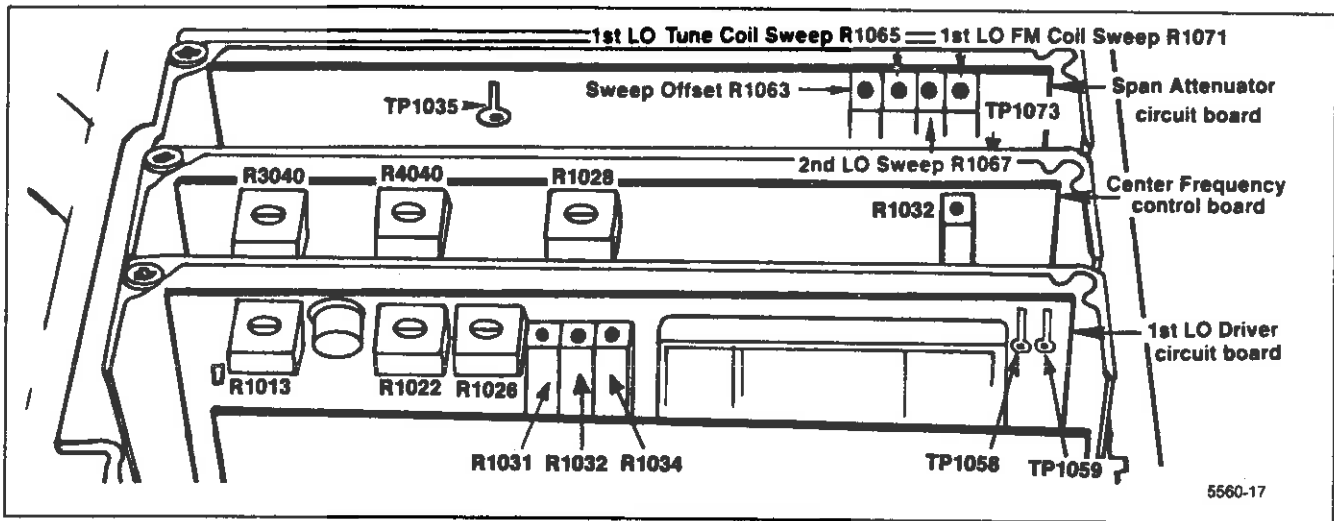

Figure 5-10. Frequency control system test point and adjustment locations.
b. Connect a shorting strap from TP1035, on the Span Attenuator board, to chassis ground (Figure 5-10). Monitor TP1073 on the Span Attenuator board with the voltmeter.
c. Adjust Sweep Offset R1063 (Figure 5-10) for 0.00 V.
d. Remove the shorting strap from TP1035. Press <SHIFT> 0 and select item 1 (FREQUENCY LOOPS CAL), then item 0 (OVERALL SYSTEM) from the menus. Perform the calibration steps as directed ("CONNECT A DVM TO TP1058 ON THE 1ST LO DRIVER BOARD AND GROUND"), etc.
(1) If a "CALIBRATION STEP CANNOT BE COMPLETED" message is displayed, bypass the step, perform the other adjustments then return to the adjustment and try to bring the adjustment in range. If the problem persists, refer to Troubleshooting the Frequency Control System, in the Maintenance section.
(1) Apply the CAL OUT signal to the RF INPUT, set the FREQUENCY to 600 MHz, FREQ SPAN/DIV to 100 MHz, and set the REF LEVEL to display the markers.
(2) Adjust Tune Coil Swp R1065, on the Span Attenuator board (Figure 5-10) for one marker per division over the center eight divisions of the graticule. Reset the CENTER FREQUENCY as necessary to align the markers.
(3) Remove the Calibrator signal and apply 0.2  $\mu$ s time marks from the Time Mark Generator to the RF INPUT.
(4) Set the FREQ SPAN/DIV to 5 MHz, REF LEVEL to +10 dBm, and FREQUENCY to about 10 MHz.
(5) Adjust the 1st LO FM Coil Swp R1071 (Figure 5-10) for 1 marker/division over the center eight divisions of the display.
(6) Set the FREQ SPAN/DIV to 20 KHz and apply 50  $\mu$ s markers from the Time Mark Generator.
(7) Adjust the 2nd LO Sweep, R1067, for one marker/division over the center eight divisions.